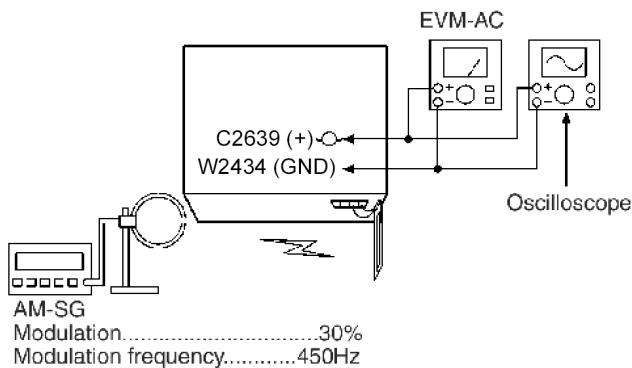

Fig. 5
- Connect the instrument as shown in Fig. 5.
- Apply signal as shown in Fig. 5 from AM-SG.